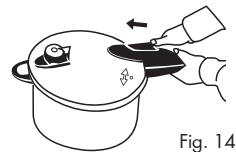

Fig. 14
a) Slide the latch to the centre of the cover (Fig. 14).